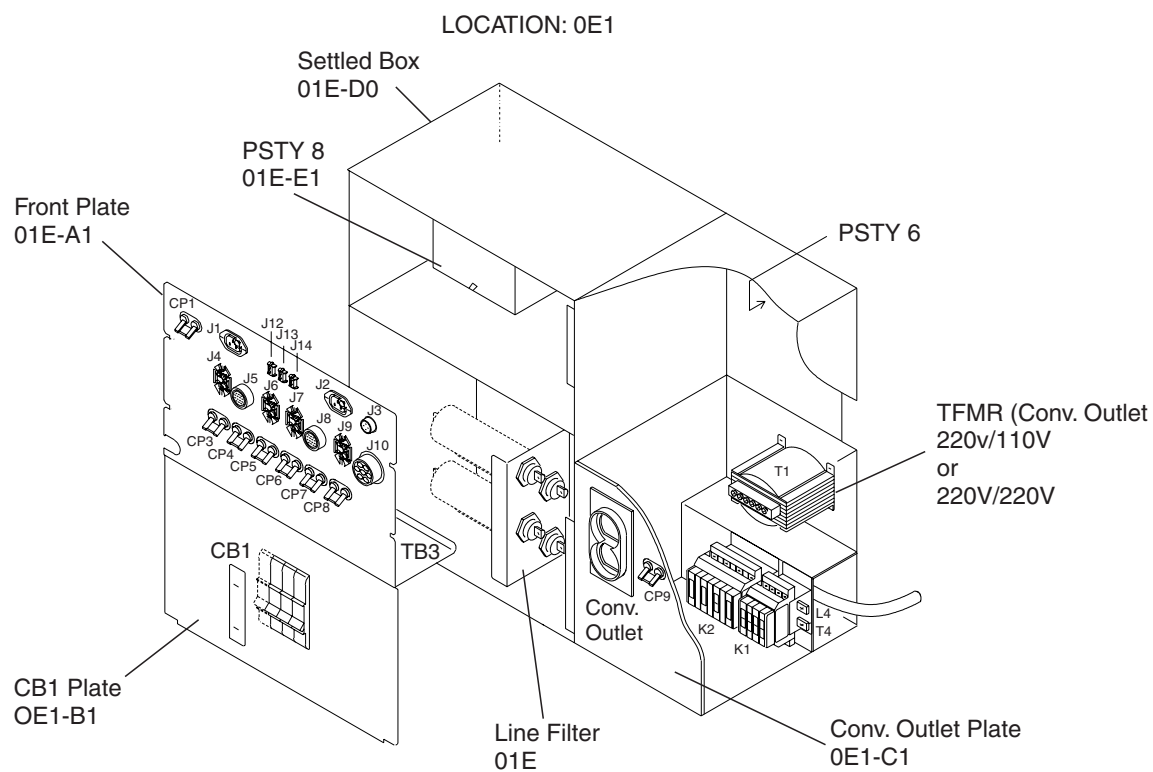

Figure 2-6. Primary Power Box
– Check at the primary power box located at 01E. See Figure 2-6 on page 2-25.